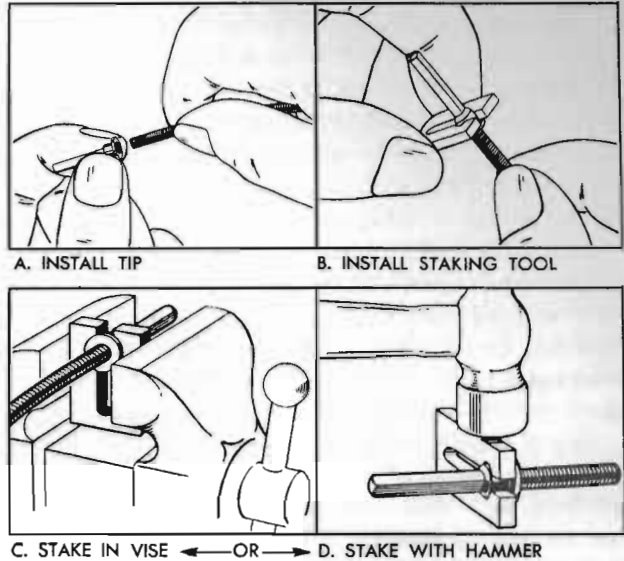

Figure 10-106—Installation of Speedometer Cable Tip
2. Fit the correct shape new tip to the cut end of cable, then insert cable and tip between the jaws of staking tool. See figure 10-106, views A and B.
3. Squeeze staking tool edgewise in a vise, or strike the upper edge of staking tool one or two sharp blows with a hammer. See figure 10-106, view C or D. Either method will fasten tip and cable together permanently.